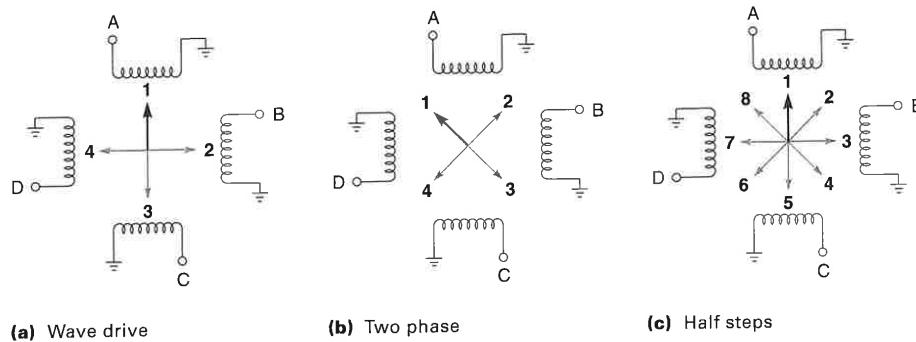

Figure 8.26 Three modes of operation for the Allegro UCN-5804B.
ground for the motor coil current. The three operating modes of the UCN-5804B are given in tabular form in Figure 8.25(b), and will be explained using Figure 8.26:
1. Figure 8.26(a) shows how the motor responds to the wave-drive sequence, a single-excitation mode where the coils A, B, C, and D are energized one at a time in sequence.
2. Figure 8.26(b) shows how the motor responds to the two-phase drive sequence, a dual-excitation mode where two adjacent phases are energized at the same time to give more torque.
3. Figure 8.26(c) shows how the motor responds to the half-step drive sequence, where the operation alternates between single- and dual-excitation modes, yielding eight half-steps per cycle.